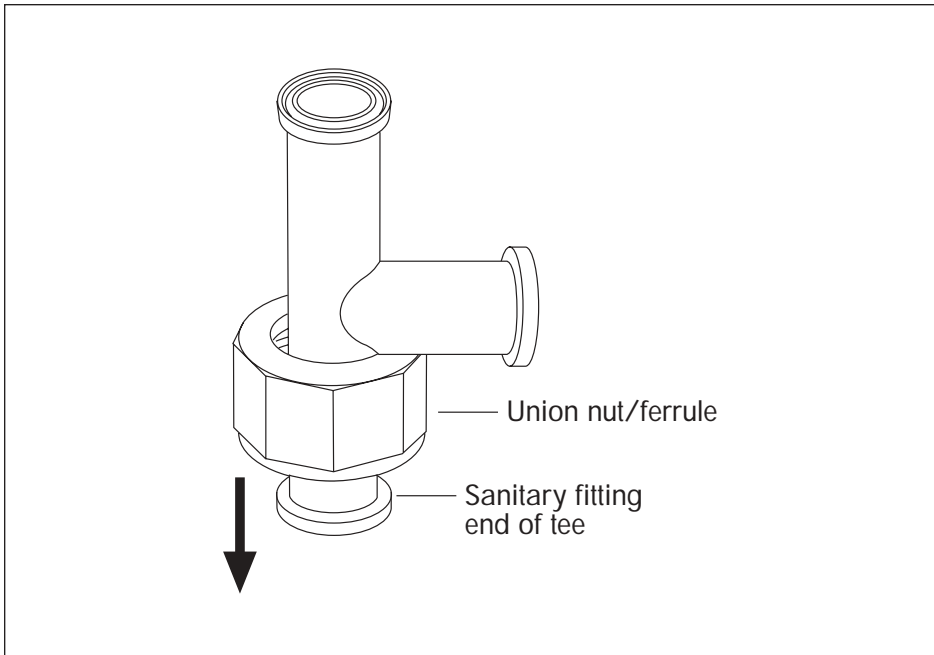

Figure 7. Union Nut and Ferrule on Tee
- c. Push the union nut downward over the sanitary fitting end of the tee (as shown in Figure 7) until it forms a snug cap. You will hear it “click” into place.